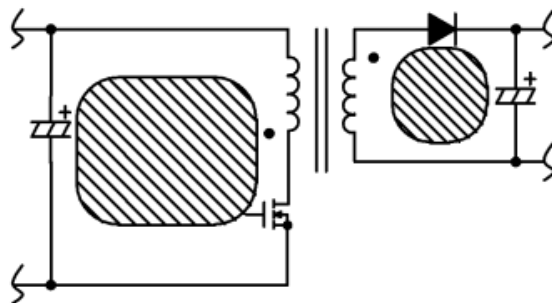

Figure 25 – High-frequency, high-current loops
- The hatched area illustrated in Figure 25, where high frequencies and high currents create a loop, should be kept as small as possible.